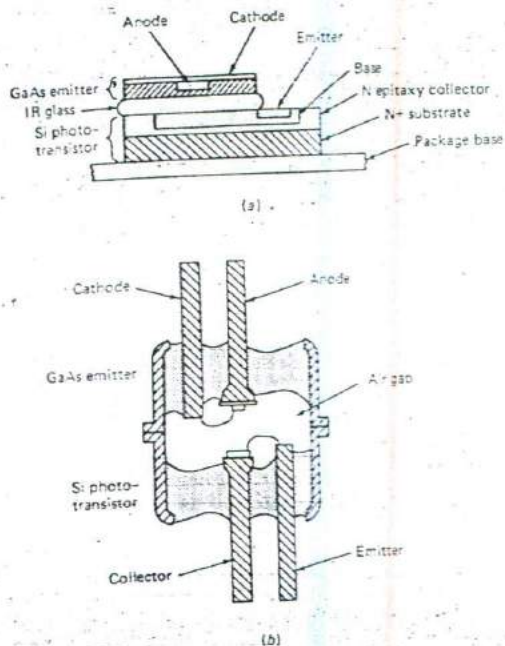

Fig. 14-58 Optocoupler configurations. (a) Glass isolated. (b) Air isolated.
The *input* stage of an optocoupler consists of an efficient GaAs infrared-emitting diode (IRED). The *output* stage of the basic optocoupler is a phototransistor. Two methods of dielectric isolation are shown in Fig. 14-58. Figure 14-58(a) has a thin layer of infrared (IR)-transmitting glass between the input and output stages; Fig. 14-58(b) uses an air gap to attain greater electrical isolation. Regardless of whether an air gap or IR-transmitting glass is used